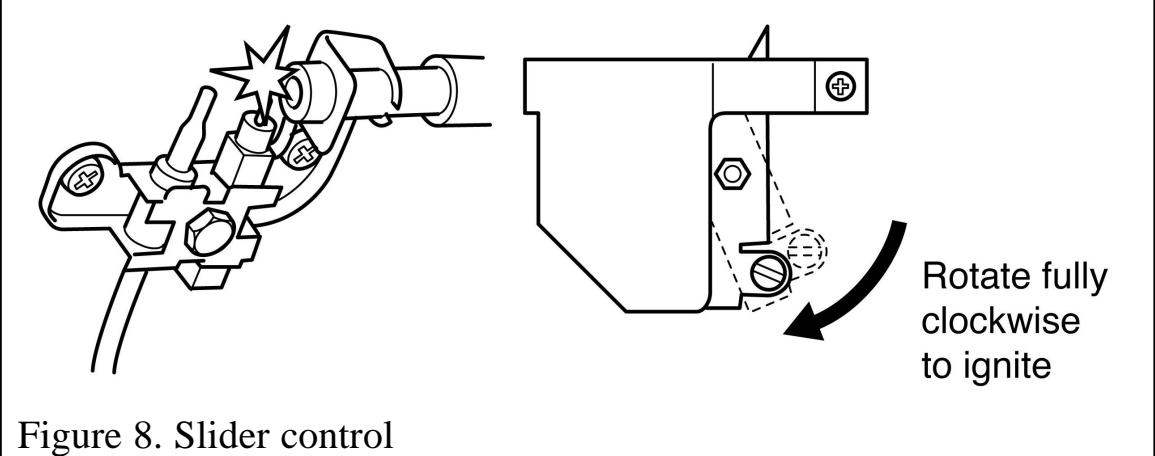

Figure 8. Slider control
This should close the ignition circuit. Sparks should be seen tracking from the electrode pin to the pilot tip (See figure 8).
2. Depress the control pivot plate as far as it will go and hold in this position (See section 6, figure 8). This should close the ignition circuit and (now that the gas is connected) simultaneously open the gas tap allowing the gas to flow to the pilot. Wait a few seconds while the air is purged. The electronically generated sparks should light the pilot. The pilot should then light the main burner at its low setting. There may be a delay of up to four seconds between the pilot lighting and ignition of the gas at the main burner. This is normal and is due to the time required to fill the main burner compartment with sufficient gas for ignition.